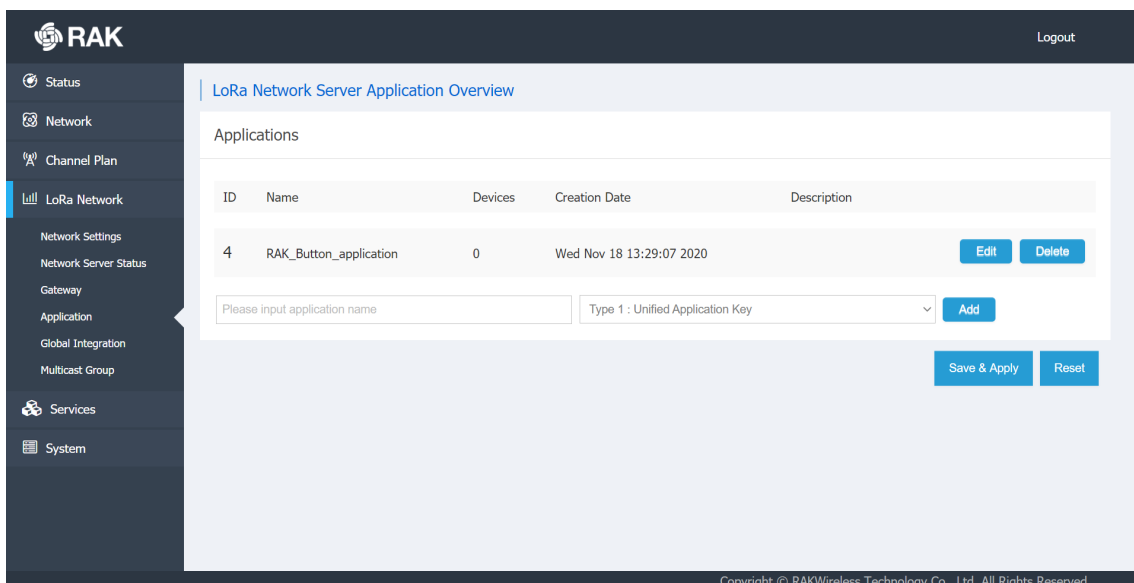

Figure 17: Application edit
1. In the created application, click on the **Edit** button as shown in Figure 17.